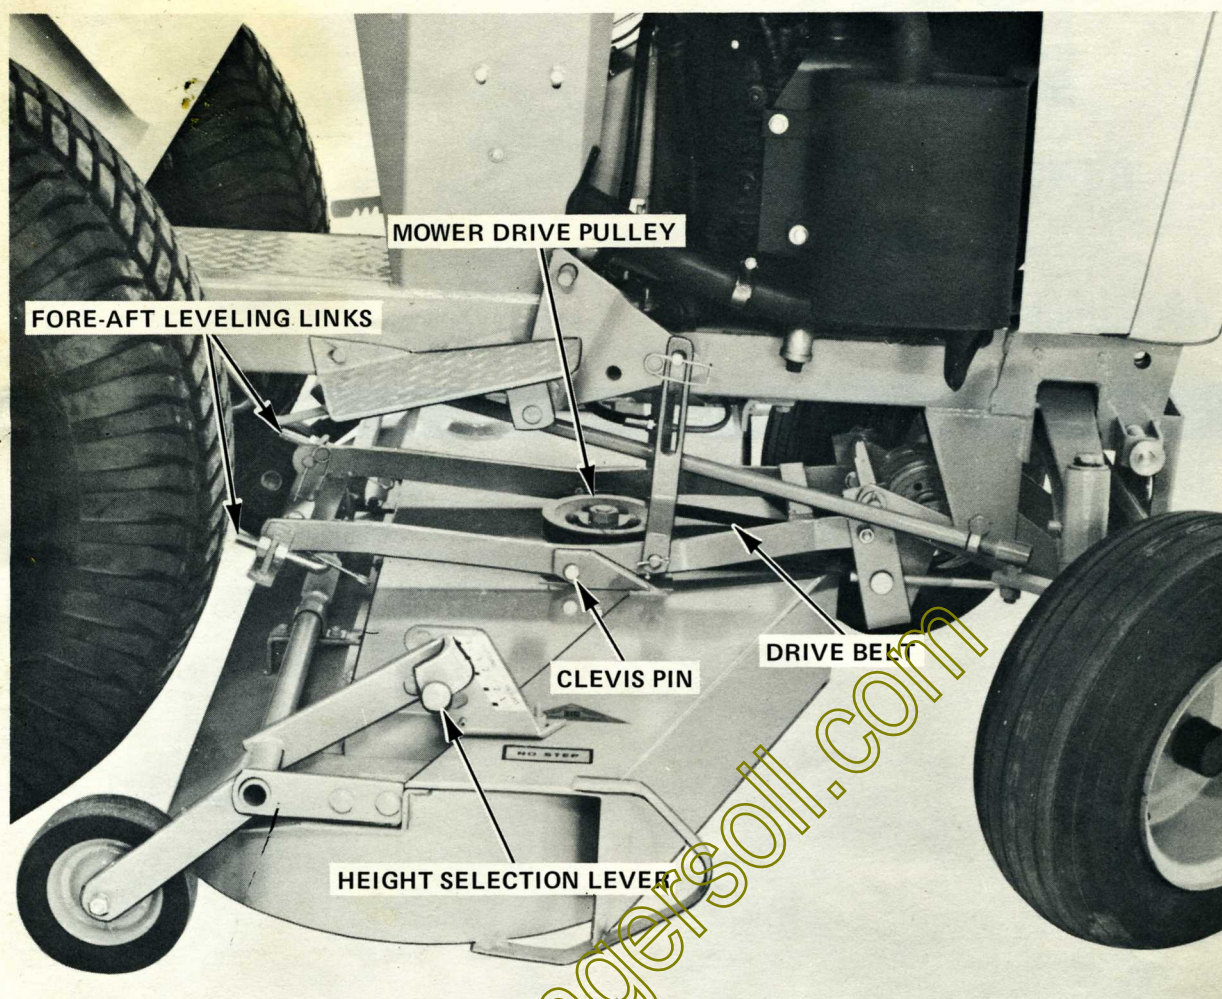

FIGURE 16 MOUNTING THE J-46 MOWER DECK
6. Place the height selection lever in the 1½" setting to gain additional clearance and slide the mower under the tractor from the right hand side and align the deck with the attaching holes in the mounting bracket. Raise the mower to the 2-1/2" setting. Lower the mounting bracket to the mower deck. Refer to Figure 16.
7. Install the Fore-Aft leveling links to the mounting bracket as illustrated in Figure 16.